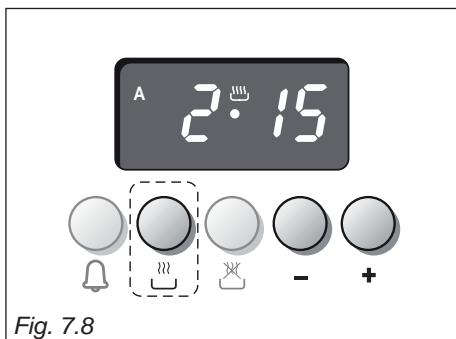

Fig. 7.8
1. Set the cooking time by pressing button and then to move forward or to move back if you have gone beyond the required time (fig. 7.8).